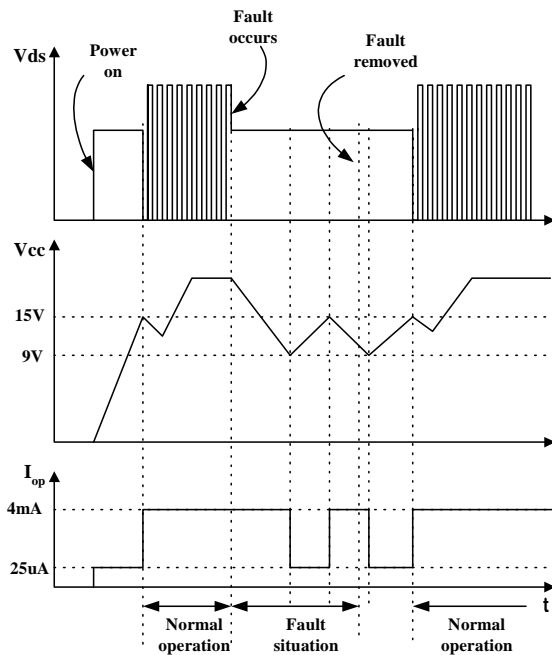

Figure 12. Auto restart mode protection
**-Auto-restart mode protection:** Once the fault condition is detected, switching is terminated and the Sense FET remains off. This causes  $V_{cc}$  to fall. When  $V_{cc}$  falls down to the under voltage lockout (UVLO) stop voltage of 9V, the protection is reset and FSCQ1265RT consumes only startup current (25uA). Then,  $V_{cc}$  capacitor is charged up, since the current supplied through the startup resistor is larger than the current that FPS consumes. When  $V_{cc}$  reaches the start voltage of 15V, FSCQ1265RT resumes its normal operation. If the fault condition is not removed, the SenseFET remains off and  $V_{cc}$  drops to stop voltage again. In this manner, the auto-restart can alternately enable and disable the switching of the power Sense FET until the fault condition is eliminated (see Figure 12).